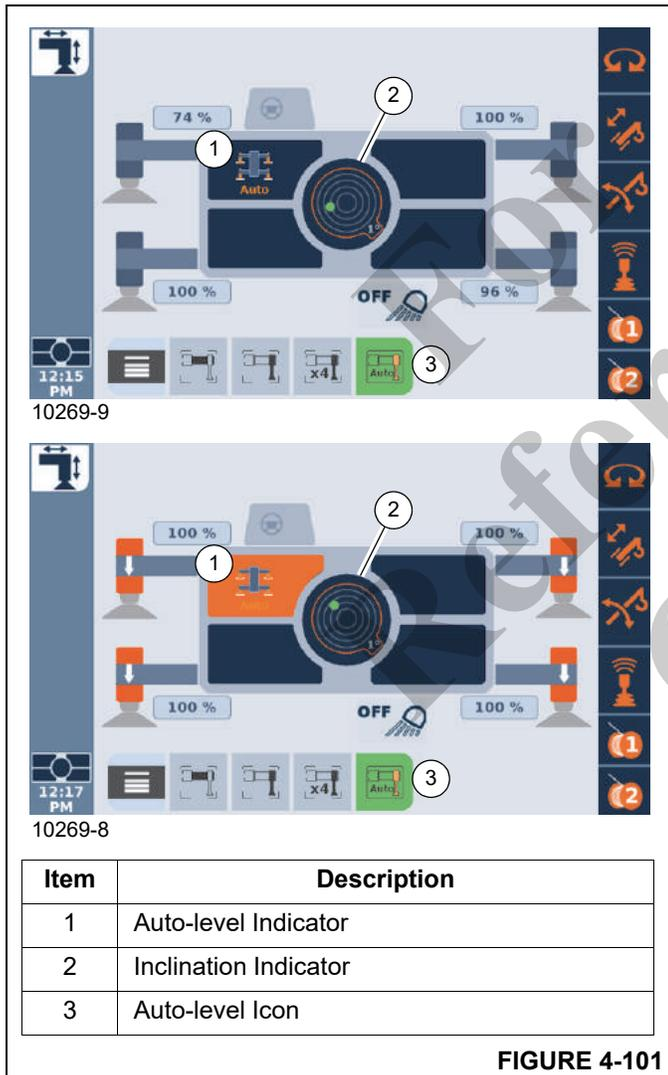

**FIGURE 4-100**
1. Using the Jog Dial, or the Arrow Buttons at the Navigation Control Pad, select the O/R Jack x4 icon (6, Figure 4-100) (icon will turn orange when selected).
When extending or retracting all four outrigger jacks at the same time, the four O/R jack images turn orange to indicate that they are active. Arrows appear to indicate whether the jacks are extending or retracting. In following example (Figure 4-100), the top image shows all four outrigger jacks are extending and the bottom image shows all four outrigger jacks are retracting: